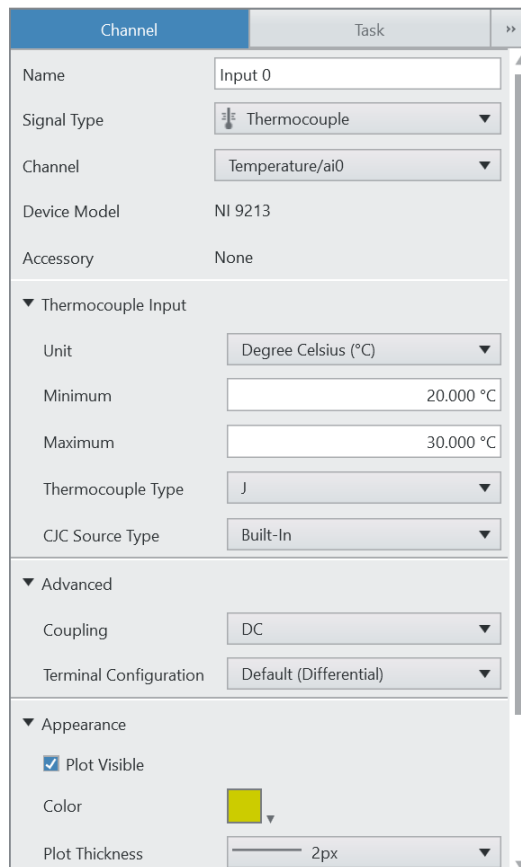

Figure 3-9: The Channel tab in the Configuration Pane is used to modify the settings for one channel.
3. To configure a temperature measurement with a thermocouple, configure the Channel parameters in the configuration pane as shown in Figure 3-9.